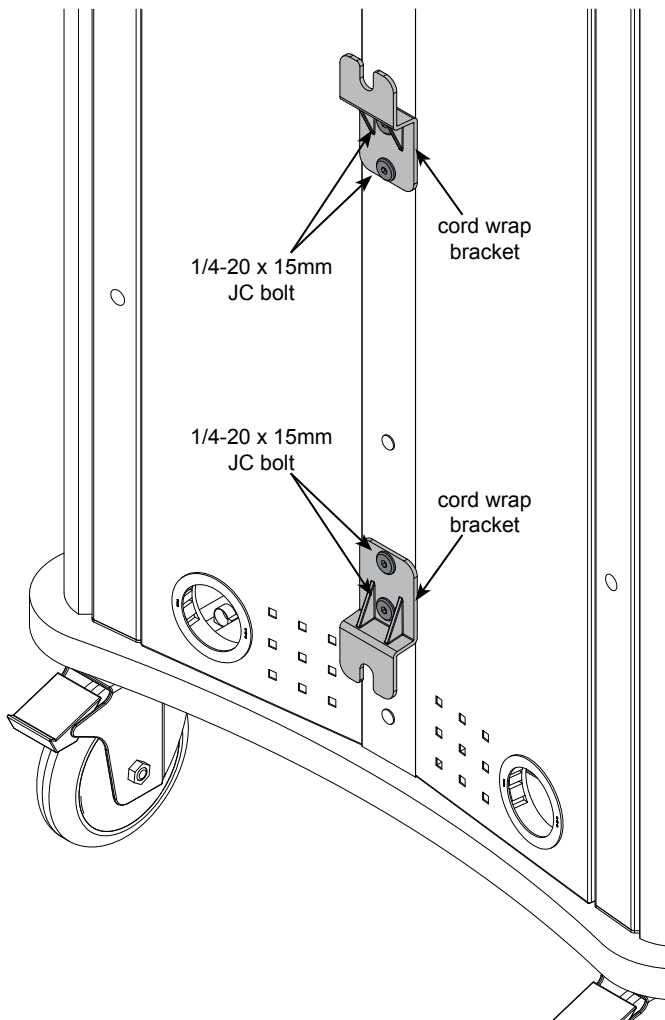

Figure 3A
1. Attach the cord wrap brackets to the side panels (left and right-side) with 1/4-20 x 15mm JC bolts as shown in **Figure 3A** and tighten securely. Be sure the brackets are facing away from each other as shown.